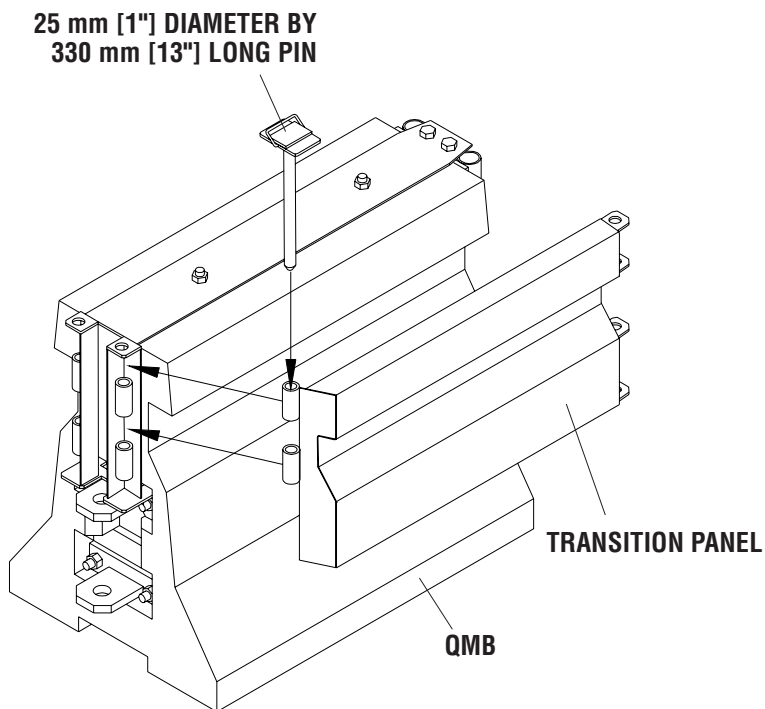

Figure 14
Step 4: Install Transition Panel (See Figure 14)